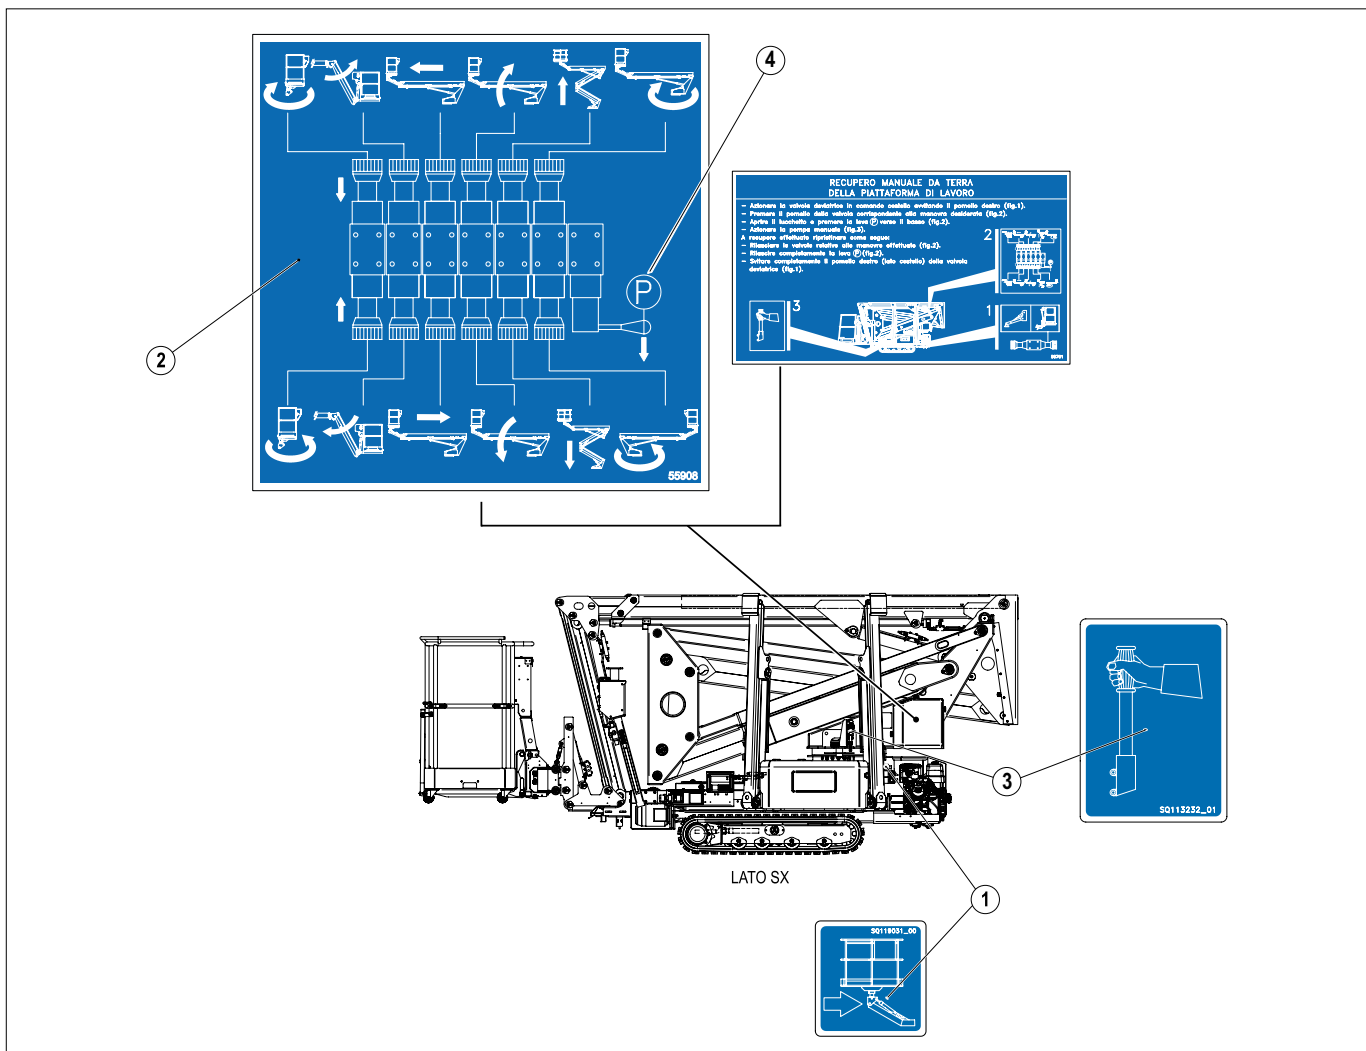

FIG. 38 (Lowering the work platform manually using the ground controls)
- 5) Begin the recovery operation by pressing the knob of the valve that controls the required movement, while simultaneously operating the speed adjustment lever (P) (FIG. 38 - Ref. 4). For information on the function of the individual valves, refer to the sticker (FIG. 38 - Ref. 3).
- 2) Attach the control lever to the hand pump (FIG. 38 - Ref. 3).
- 4) Remove the seal from the diverter valve (FIG. 38 - Ref. 1).
- 5) Adjust the diverter valve on the enclosure control panel by tightening the relevant knob (FIG. 38 - Ref. 1);
- 6) Begin the recovery operation by pressing the knob of the valve that controls the required movement, while simultaneously operating the speed adjustment lever (P) (FIG. 38 - Ref. 4). For information on the function of the individual valves, refer to the sticker (FIG. 38 - Ref. 2).
- 7) Operate the hand pump (FIG. 38 - Ref. 3) to perform the required movement
- 10) Loosen the right knob of the diverter valve completely (FIG. 38 - Ref. 1).